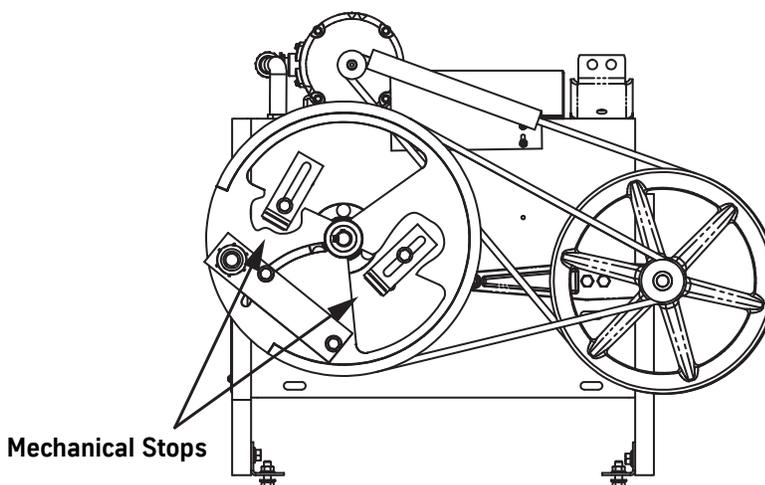

Figure 7 - Drive Sheave Mechanical Stops
4. Loosen the bolts holding the mechanical stops. See Figure 7.